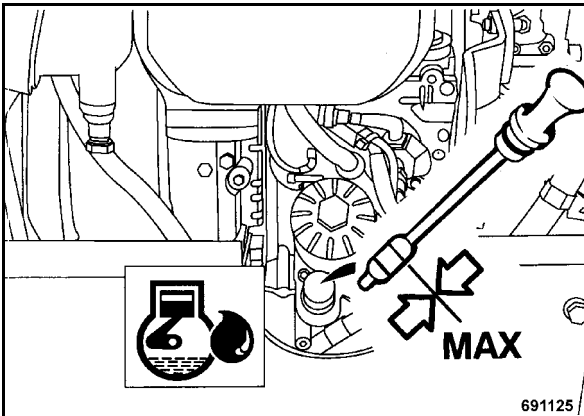

Fig. 64
- After a short test run check the oil level on the dipstick (Fig. 64). The oil level should reach the top level mark, top up oil if necessary.